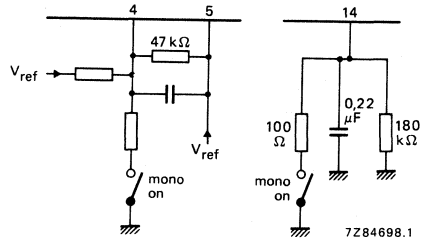

Fig. 3 (a) At pin 4; $-V_{4-5} > 300$ mV; (b) at pin 14.
4. External mono 'ON' switch; see Fig. 3.